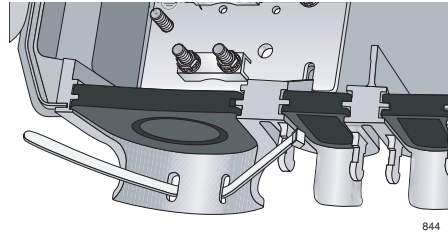

Figure 8. Inserting the Wire Tie
4. Insert a UV-rated wire tie (not provided) through the slots at the bottom of the entrance as shown in Figure 8.